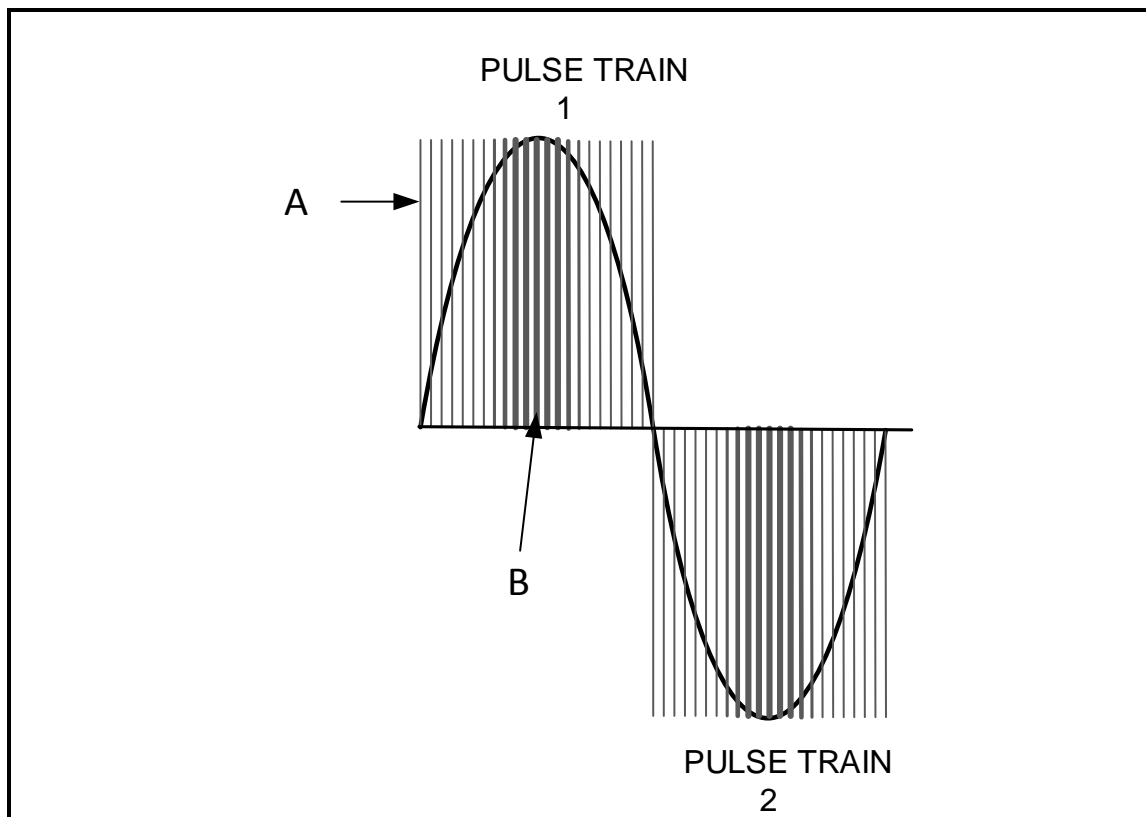

FIGURE 6.11: TRAIN OF PULSES
6.11 Refer to the VSD output voltage pulses in FIGURE 6.11 below, and answer the questions that follow.
- 6.11.1 Describe the duration of the switching time at area **A** and area **B** with reference to pulse width modulation in FIGURE 6.11. (2)
- 6.11.2 State the effects the width of the pulses has on the average output voltage in FIGURE 6.11 **A**. (2)